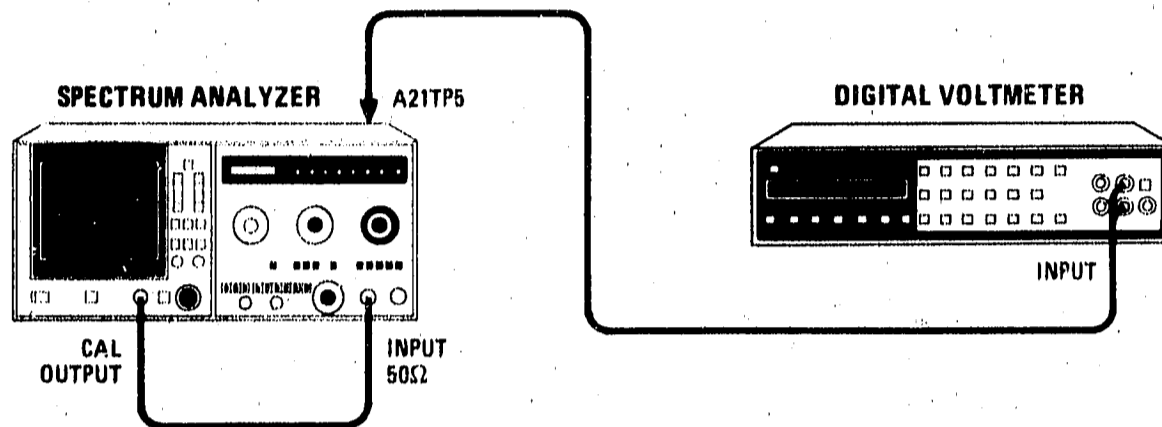

Figure 5-18. Video Offset Adjustment Test Setup
2. Reconnect power cord, set LINE switch ON, and connect equipment as shown in Figure 5-18.